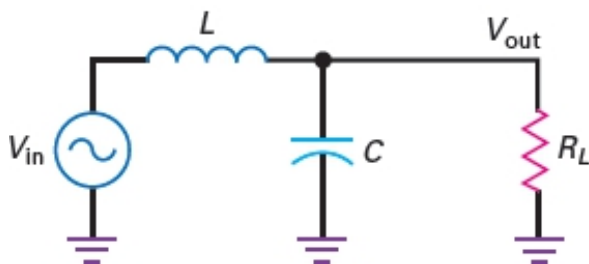

Figure-50 Choke-input filter
- Look at Figure-50. This type of filter is called a choke-input filter. The ac source produces a current in the inductor, capacitor, and resistor. The ac current in each component depends on the inductive reactance, capacitive reactance, and the resistance. The inductor has a reactance given by: